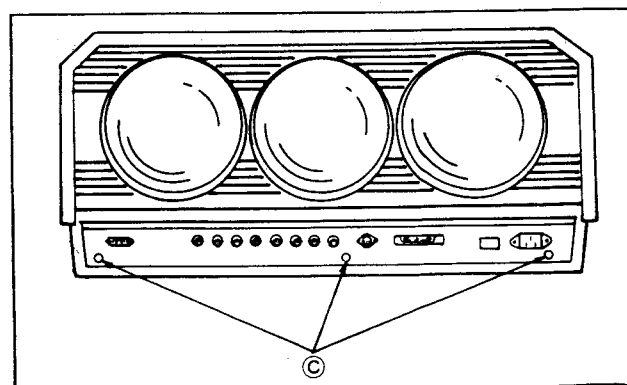

Fig. 3
- 2) Remove 3 screws (C) as shown in Fig. 3.